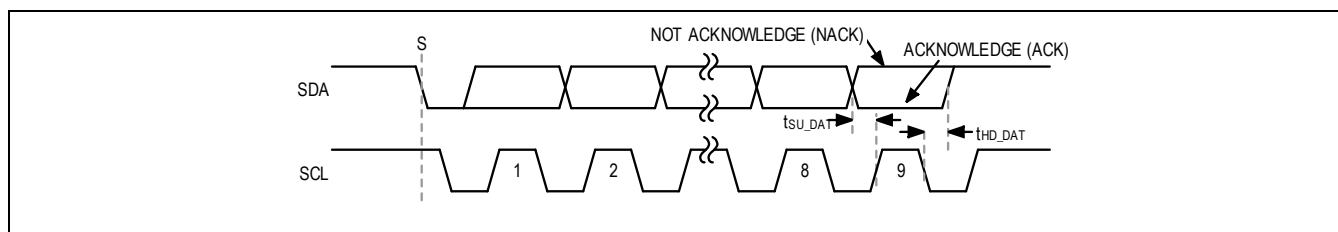

Figure 33. Acknowledge Bit
Both the I²C bus master and slave devices generate acknowledge bits when receiving data. The acknowledge bit is the last bit of each ninth-bit data packet. To generate an acknowledge (A), the receiving device must pull SDA low before the rising edge of the acknowledge-related clock pulse (ninth pulse) and keep it low during the high period of the clock pulse. See Figure 33. To generate a not-acknowledge (nA), the receiving device allows SDA to be pulled high before the rising edge of the acknowledge-related clock pulse and leaves it high during the high period of the clock pulse.